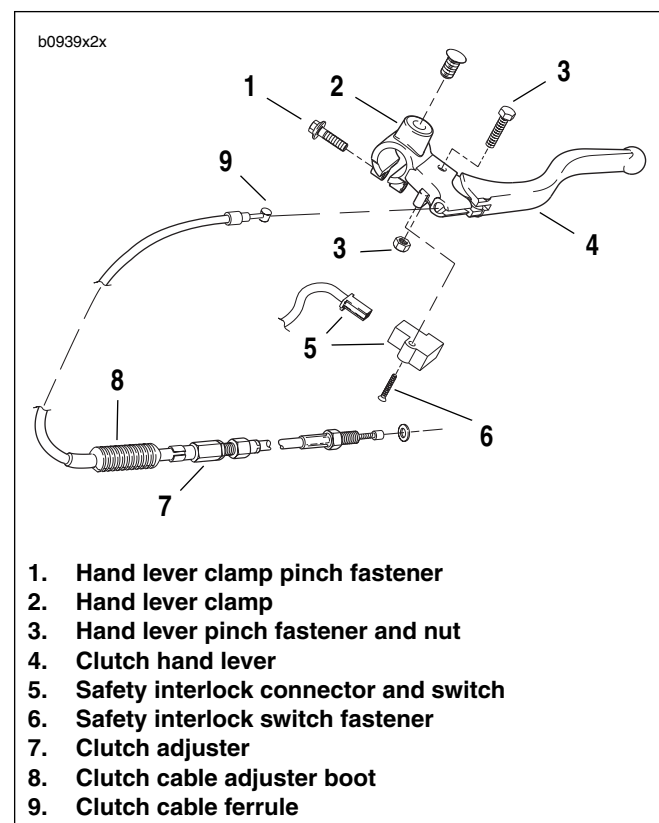

Figure 2-94. Clutch Hand Control Assembly
3. See Figure 2-94. Slide clutch cable adjuster boot (8) up to access clutch adjuster (7).
4. Loosen clutch adjuster (7) to release tension from hand lever (4).
5. Remove clutch cable ferrule (9) from hand lever (4).
6. Remove hand lever pinch bolt (3).
7. Remove hand lever (4) from hand lever clamp (2).
8. Remove safety interlock switch (5).
- a. Remove hand lever clamp fastener (1) and spin clamp (2) to access safety interlock switch (5).
- b. Disconnect safety interlock switch connector (5) and remove switch fastener (6) and switch (5).
1. See Figure 2-94. Slide hand lever clutch clamp (2) over left handlebar. Loosely tighten hand lever pinch fastener and nut (3).
2. Connect safety interlock connector and switch (5).
3. Install safety interlock switch (5) with fastener (6) tightening to 7-10 **in-lbs** (0.8-1.0 Nm).